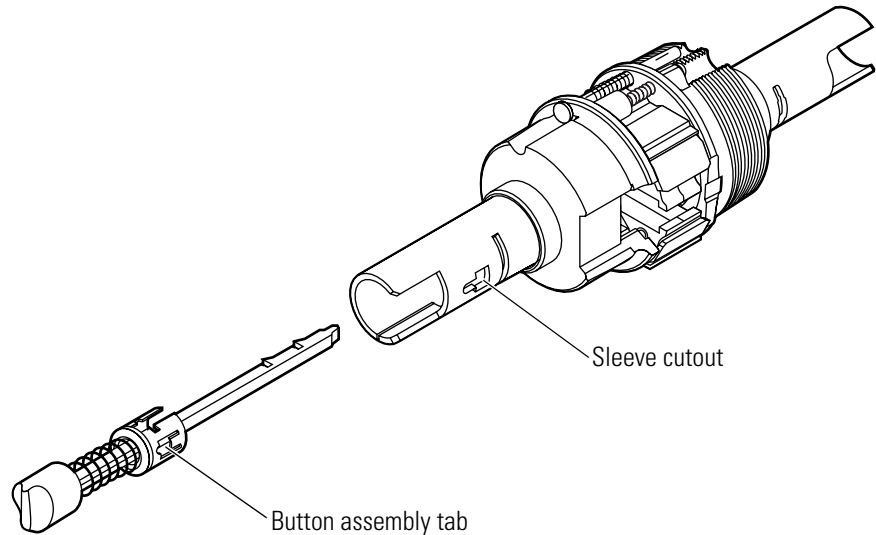

Figure 3.11 Inserting the button assembly into the sleeve
1. Insert the new button assembly into the sleeve, as shown in Figure 3.11, until the tab lines up with the cutout in the sleeve. It may be necessary to slightly press in the retractor with your thumb so that the locking bar can properly align itself through the chassis and into the key release cam assembly.